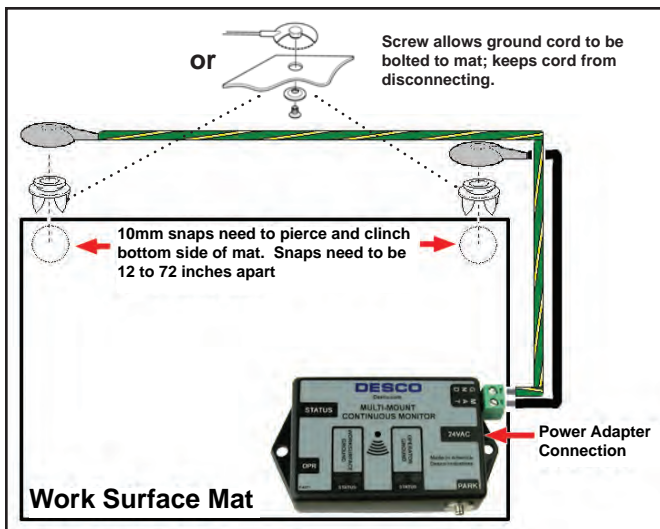

Figure 3. Installation method #1 of the Multi-Mount Continuous Monitor
- II. The Multi-Mount Continuous Monitor may be mounted to a convenient location using the included mounting screws or Velcro® set. See Figure 3 for installation set-up.
- III. Install Screws and Washers or Push and Clinch snaps 12 to 72 inches apart from each other on the work surface mat. Make sure that they pierce and clinch the bottom side of the mat. (See Figure 3).
- The work surface resistance is measured between the two cords installed to the mat worksurface (See Figure 3).